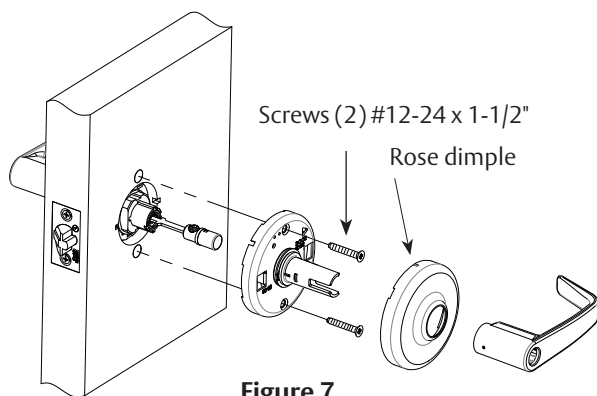

Figure 7
4. Orient dimples on side of rose with openings on side of spring housing assembly (See Figure 7).